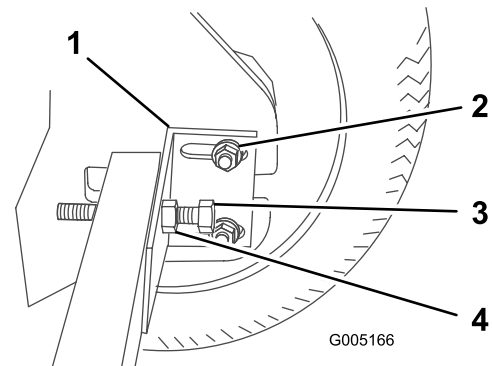

Figure 31
3. Loosen the nuts securing the axle retaining bracket (Figure 31).
4. Loosen the nut on the chain tensioning bolt and loosen the bolt (Figure 31).
to secure it in place (Figure 31) and torque the nut to 30 ft-lb (40.7 N·m).